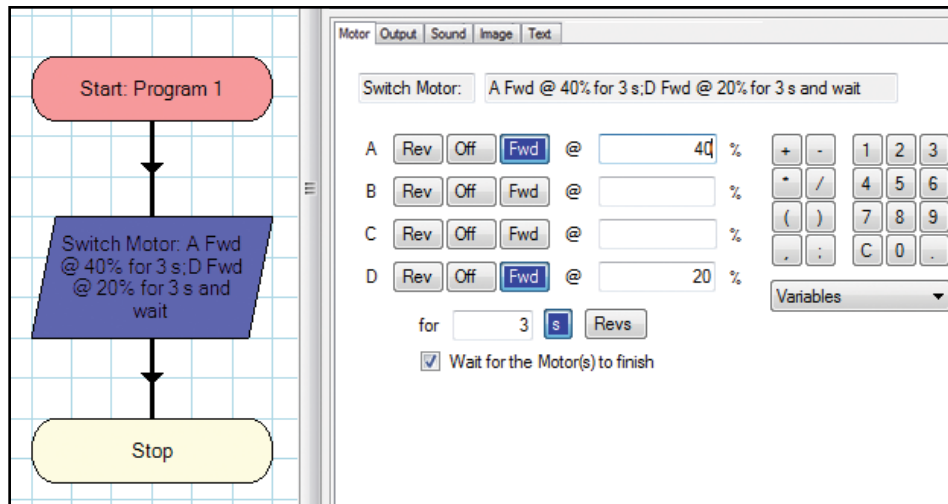

Figure 4: Arc Turn Right.
- **Arc Turn Right** – Both motors turn the same direction, but the right motor is powered less than the left. This arrangement will cause the model to turn in an arc to the right. Challenge students to explore what happens to the size of the turn when larger or smaller power differences are used. *NOTE: Adjustments to the duration (in seconds) need to be made to keep the right turn approximately 90°, and not have the model turn 180° or spin in a circle. Figure 4 shows an example of the Arc Turn Right.*
Teacher's Note: To program the model to turn left, students will use information similar to the data in Figures 4 & 5 except they will reverse the motor directions and power settings for motors A and D.